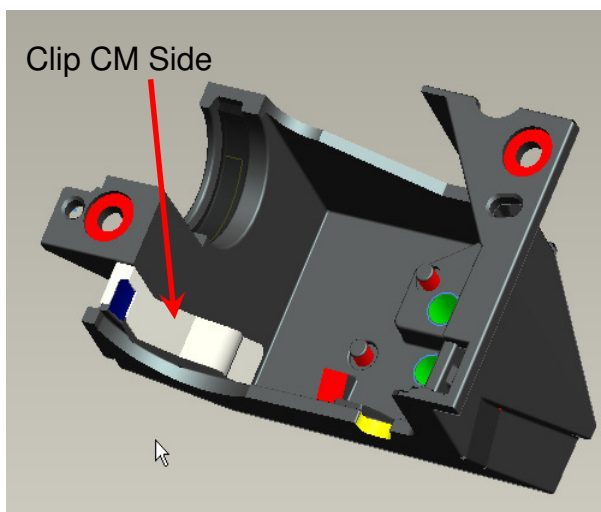
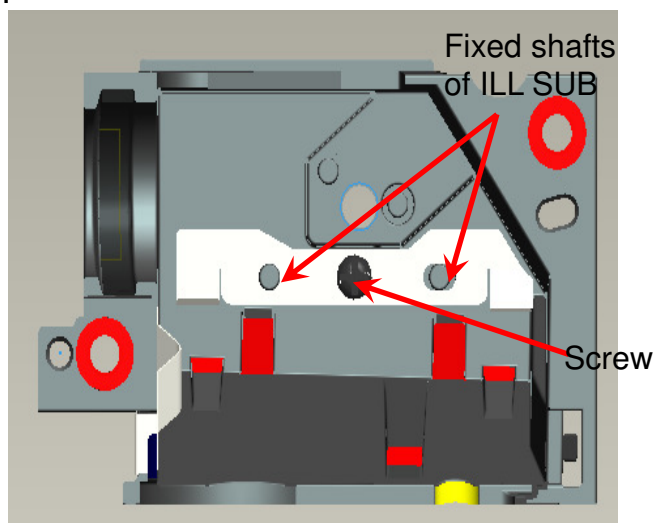

Fig. 3-1
Fig. 3-2
- I. Insert “Clip CM Side” first, and then place “Clip Front CM” to fixed-shaft of ILL SUB before locking screw (Fig. 3-1, Fig. 3-2).